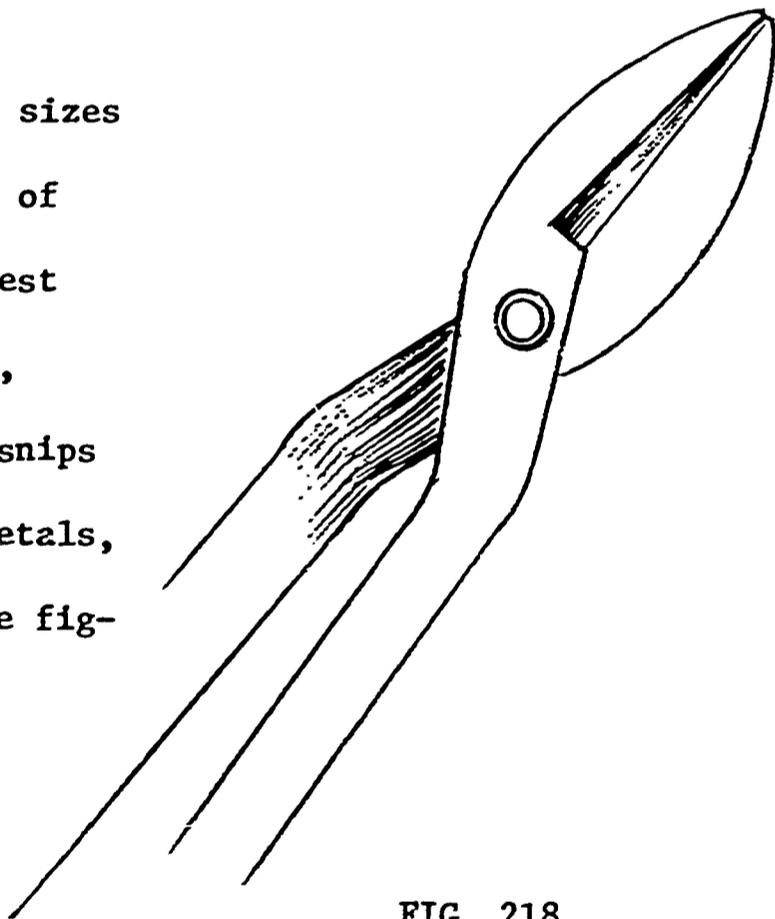

FIG. 218
9. Tin snips come in a variety of sizes and shapes depending upon the type of specialized work attempted. The best all around snip is the combination, approximately 8 to 10" long. Tin snips are used for cutting light guage metals, metal straps, heavy wire, etc. See figure 218.